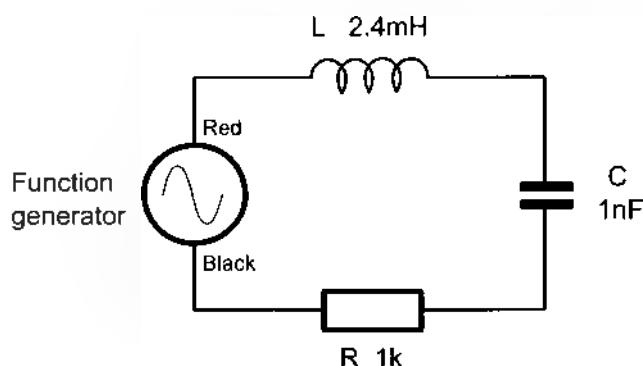

Figure 3
17. Wire the circuit of Figure 3.